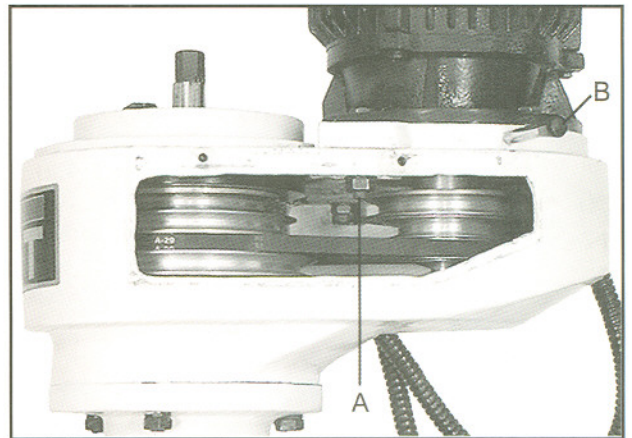

Fig. 7
2. Loosen hex nut (A, Fig. 7).
3. Take the tension off the belt by moving handle (B, Fig. 7).